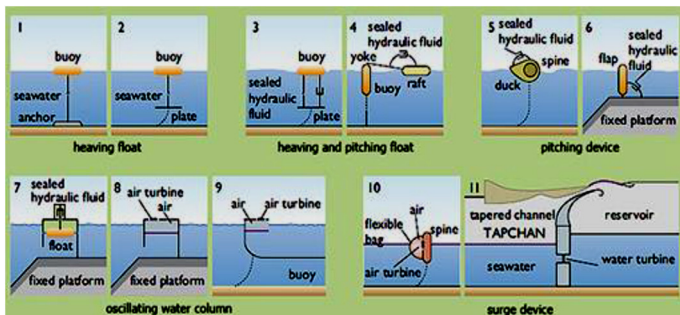

Fig. 5 Schematic representation of various types of wave energy converter classified by mode of operation (source: Falnes and Løvseth, 1991)
1. Classified by mode of operation (Fig. 5)